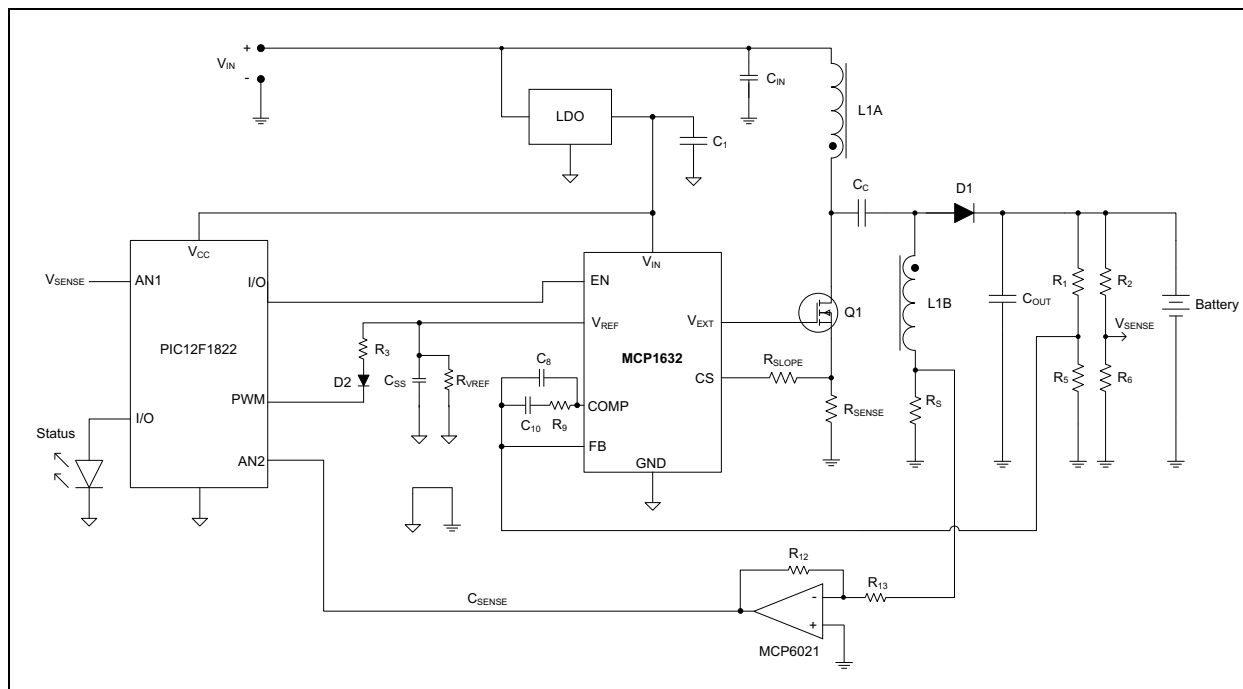

FIGURE 1-1: MCP1632 Block Diagram.
- Figure 1-1 shows a simplified block diagram of the application